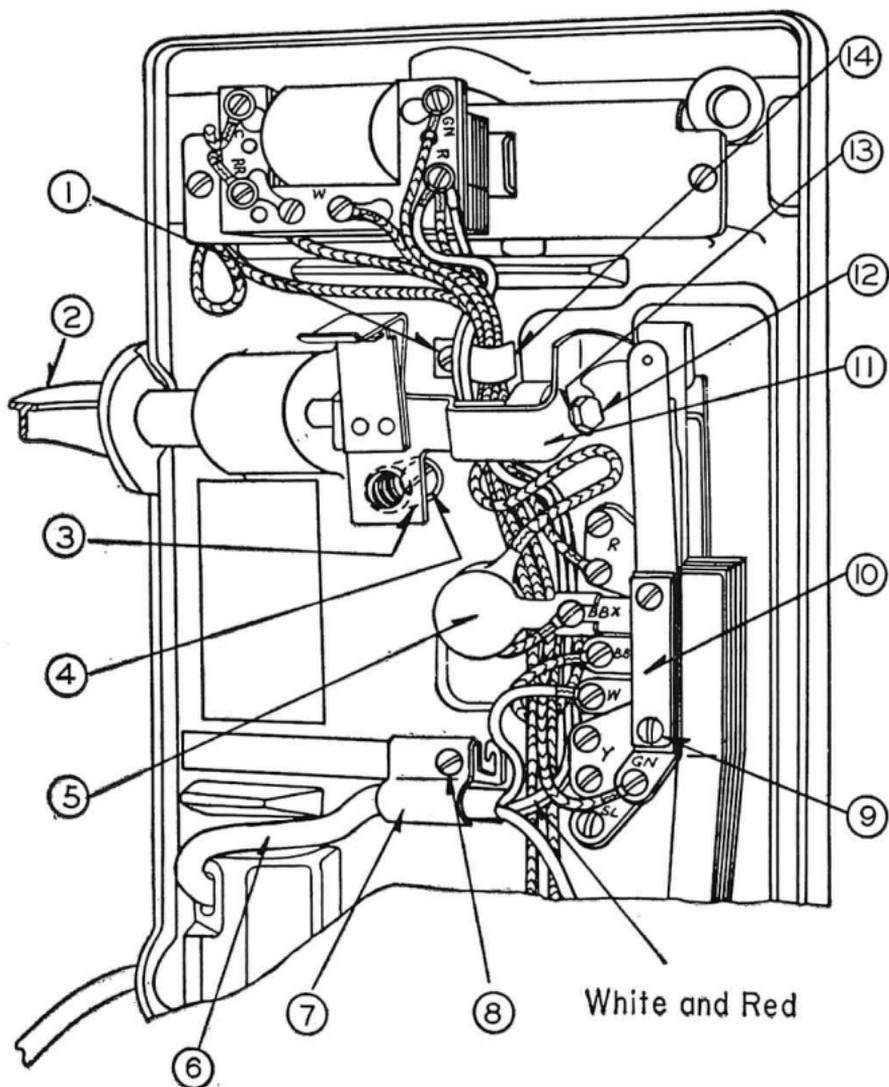

Fig. 7—Coin Collector Equipped for Use With G1B Handset
6.04 Where transmission conditions in long loop areas create a maintenance problem, the G1B-3 handset may be used with coin collectors which have been modified to include the new switchhook spring assembly shown in Fig. 7. Such coin collectors are designated by a star after the code marking, e.g., 191G*. On other types of handset coin collectors which have not been modified, it will be necessary to use the F4- or F5-type handset as noted in 5.10.
6.06 When the F-type handset of a coin collector is replaced by a G-type handset the cord shall be clamped as shown in Fig. 7.
B. Piece Part Information (See Fig. 7)